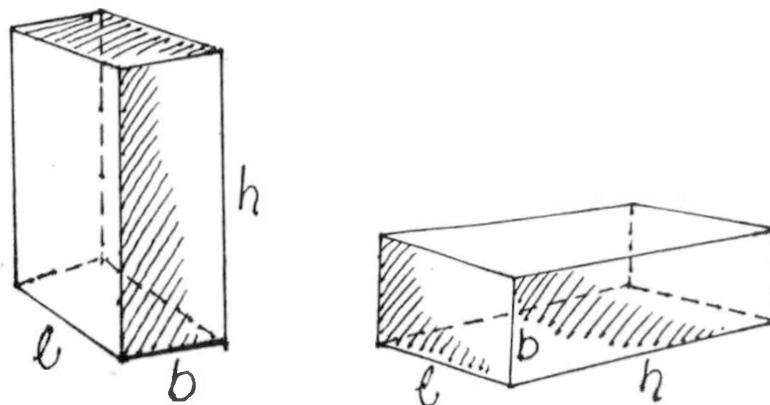

Fig.2.22
3. Place the brick in two positions as shown in Fig. 2.22